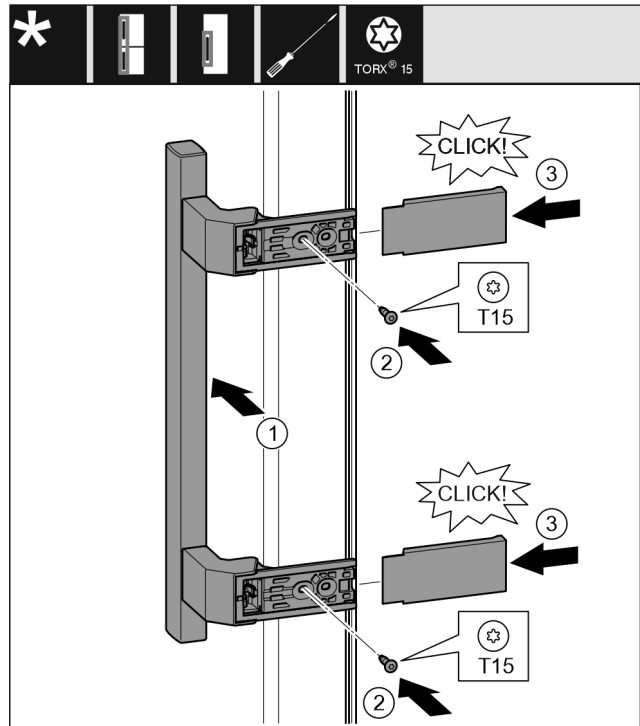

Fig. 20
- ▶ Attach the handle on the opposite side. *Fig. 20 (1)*
- ▶ Tighten screws with screwdriver T15. *Fig. 20 (2)*
- ▶ Place the covers on the side and push them on. *Fig. 20 (3)*